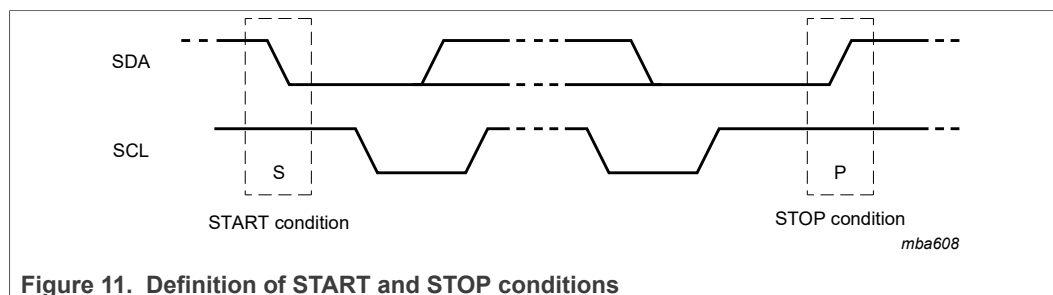

Figure 11. Definition of START and STOP conditions
Both data and clock lines remain HIGH when the bus is not busy. A HIGH-to-LOW transition of the data line while the clock is HIGH is defined as the START condition (S). A LOW-to-HIGH transition of the data line while the clock is HIGH is defined as the STOP condition (P) (see Figure 11).